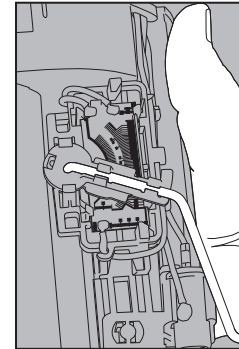

Figure 3
2. Carefully push on the float arm until it snaps into the fuel level sender. The float arm will now be in place (Figure 3).